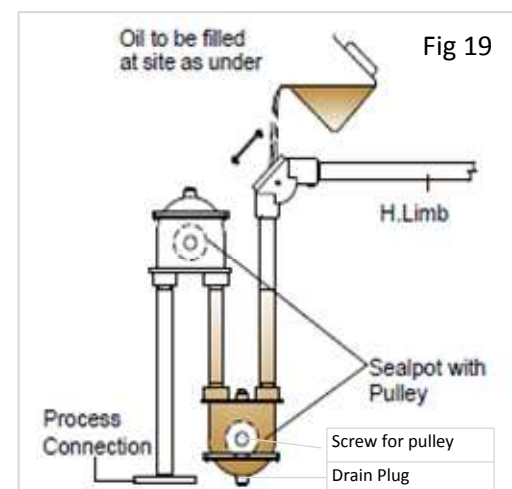

Fig 19
- Open the pulley cover and pour non-volatile liquid (**silicon oil**) in the seal pot completely such that conduit pipe connected to it should also be filled as shown in fig 19 Silicon oil required for seal pot is as under